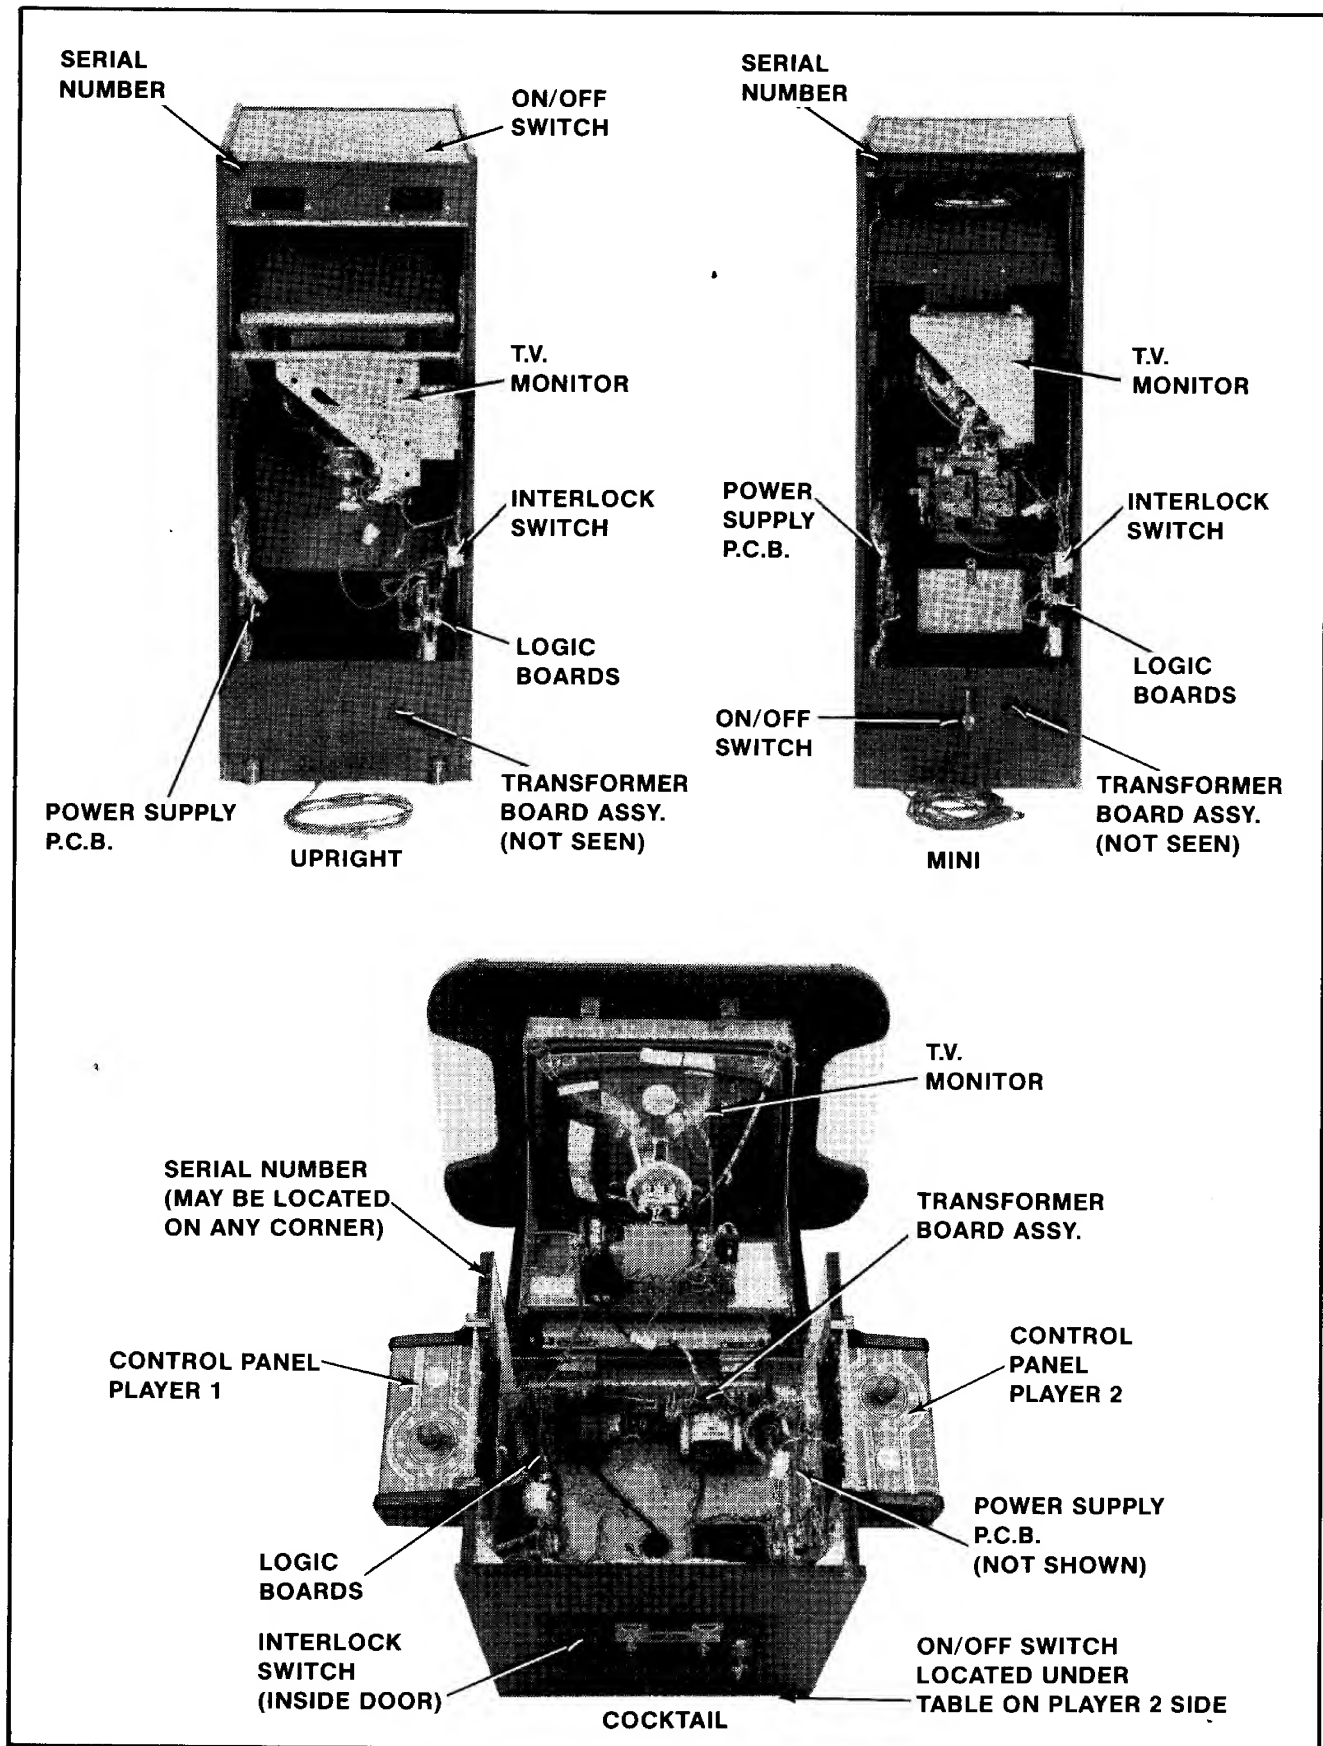

Figure 2-1 Location of Serial No., Interlock Switch, On/Off Switch, & Major Sub-Assemblies
2-2 Major Sub-Assemblies (Cont. from Fig. 2-1)	2-3
5. Open the cabinet and inspect the inside of the game for any signs of damage. See Figure 2-1.
- ☐ Note the location of the game's serial number. See Figure 2-1.
- ☐ Check all major subassemblies to be sure they are mounted securely. These are called out in Figures 2-1 & 2-2.
3. Interlock and power ON/OFF switches. See Figure 2-1.
The game ON/OFF switches for all models are located as shown in Figure 2-1. Turn the game on and allow it to warm up a few minutes.